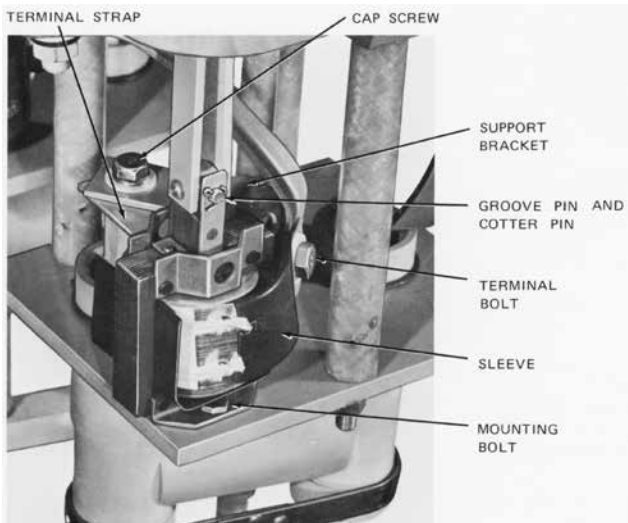

Figure 1. Series trip solenoid with standard coil.
4. Remove cotter pin and slide out the groove pin that connects the insulated operating links and the solenoid plunger (Figure 1).
5. Remove the terminal that fastens both the bushing lead and the outer coil terminal to the support bracket (Figure 1). Note that for 400S and 560 S coils there is no support bracket.
5. Connect the terminals to the contact tube and the bushing lead to complete reassembly. If 400X or 560X coils are being installed, no support bracket (Figure 1) is required.